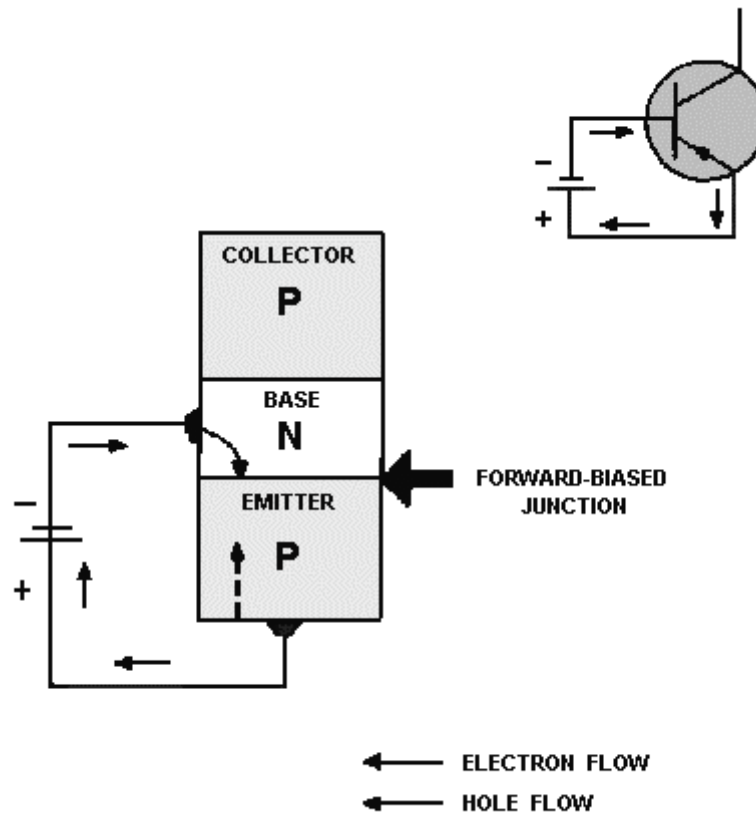

Figure 2-9.—The forward-biased junction in a PNP transistor.
**PNP FORWARD-BIASED JUNCTION.**—Now let us consider what happens when the emitter-base junction in figure 2-9 is forward biased. With the bias setup shown, the positive terminal of the battery repels the emitter holes toward the base, while the negative terminal drives the base electrons toward the emitter. When an emitter hole and a base electron meet, they combine. For each electron that combines with a hole, another electron leaves the negative terminal of the battery, and enters the base. At the same time, an electron leaves the emitter, creating a new hole, and enters the positive terminal of the battery. This movement of electrons into the base and out of the emitter constitutes base current flow ( $I_B$ ), and the path these electrons take is referred to as the emitter-base circuit.